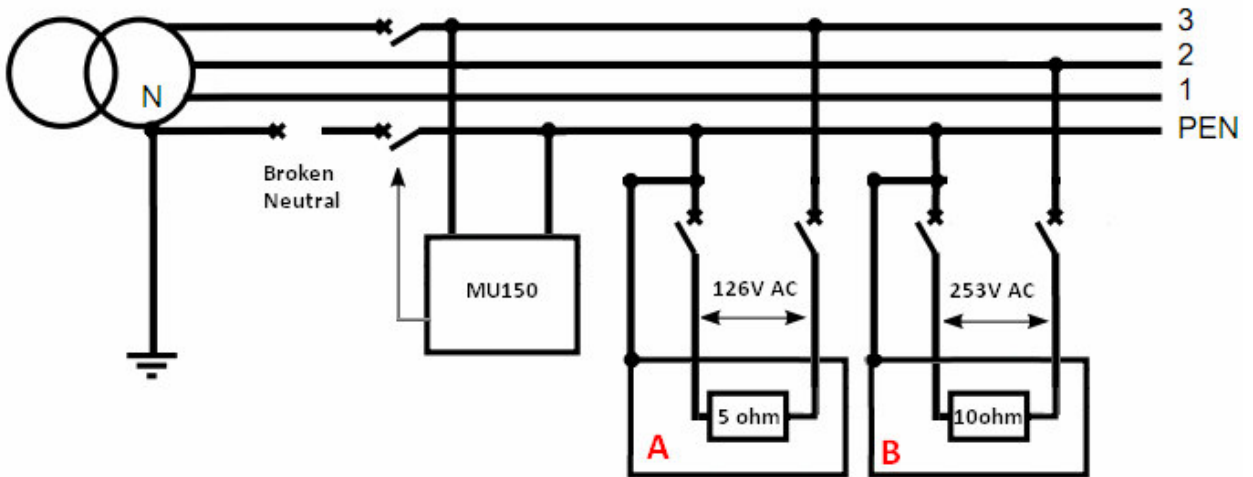

Figure 4: MU150 protection on single phase TN-C system
- For single phase protection, MU150 detects the phase voltage level (V_{1-N}) to protect it from over voltage. In figure 4, device A at phase 3 is protected but not device B.